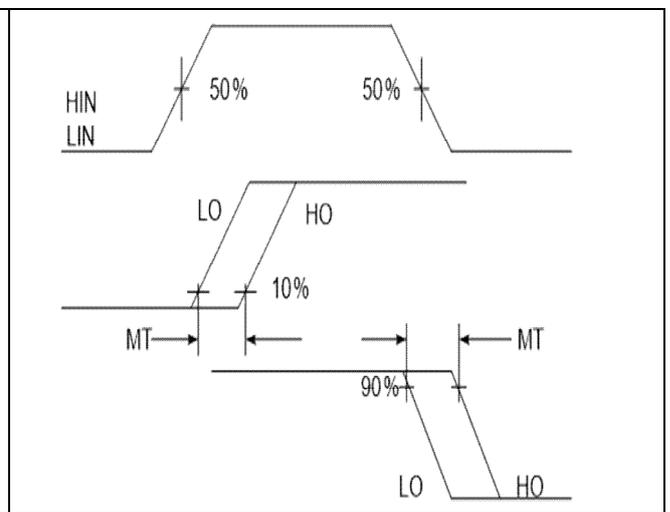

Figure 9 Delay Matching Waveform Definitions
The deadtime circuitry of 2ED2182 (4) S06F (J) is matched with respect to the high- and low-side outputs. Figure 9 defines the two deadtime parameters (i.e., DTLO-HO and DTTHO-LO); the deadtime matching parameter (MDT) associated with the 2ED2182S06F (J) specifies the maximum difference between DTLO-HO and DTTHO-LO.